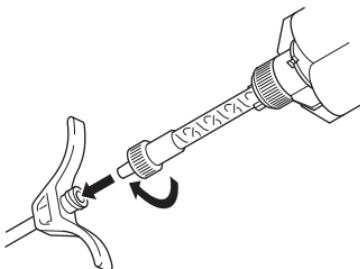

Figure 4 – Connect the Cortoss Mix Tip to the Cement Cannula
1. Connect the Cortoss Mix Tip to the cement cannula (figure 4).